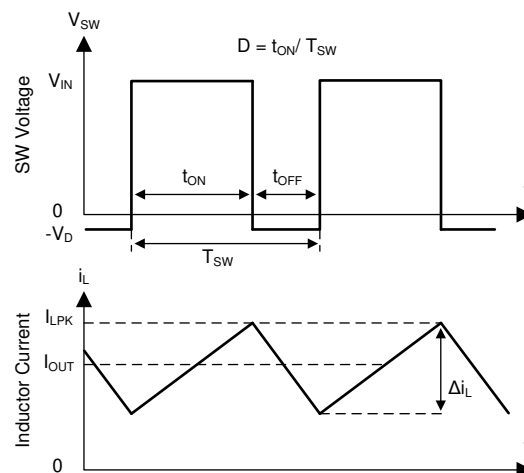

图 7-1. SW Node and Inductor Current Waveforms in Continuous Conduction Mode
The following operation description of the LM76005-Q1 refers to § 7.2 and to the waveforms in 图 7-1. The LM76005-Q1 supplies a regulated output voltage by turning on the internal high-side (HS) and low-side (LS) NMOS switches with varying duty cycle (D). During high-side switch on-time, t_{ON} , the SW pin voltage V_{SW} swings up to approximately V_{IN} , and the inductor current, i_L , increases with linear slope. The HS switch is turned off by the control logic. During the HS switch off-time, t_{OFF} , the LS switch is turned on. Inductor current discharges through the LS switch, which forces the V_{SW} to swing below ground by the voltage drop across the LS switch. The regulator loop adjusts the duty cycle to maintain a constant output voltage. The control parameter of a buck converter is defined as duty cycle $D = t_{ON} / T_{SW}$. In an ideal buck converter, where losses are ignored, D is proportional to the output voltage and inversely proportional to the input voltage: $D = V_{OUT} / V_{IN}$.